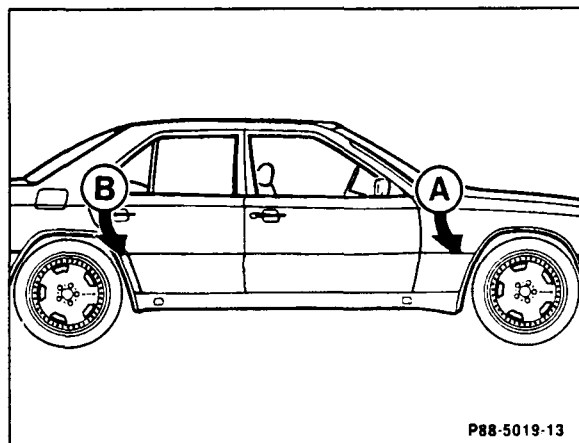

Figure 11
1. Remove side panels (A and B, Figure 11) by carefully levering with plastic wedge (110 589 03 59 00) and tugging gently to disengage panels from clips.